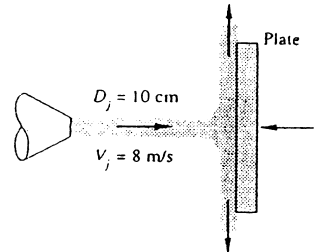

Fig. P3.40
**3.40** The water jet in Fig. P3.40 strikes normal to a fixed plate. Neglect gravity and friction, and compute the force  $F$  in newtons required to hold the plate fixed.